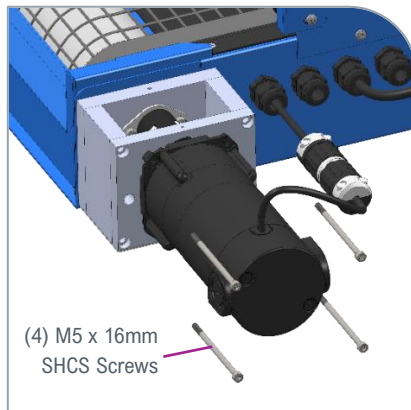

Figure 4. Remove M5 x 16mm SHCS Screws
3. Loosen and remove the (4) M5 x 16 mm SHCS (Socket Head Cap Screw) screws holding the motor mounting plate to the conveyor (Figure 4). Use caution to ensure the motor does not fall off the conveyor when removing the screws.